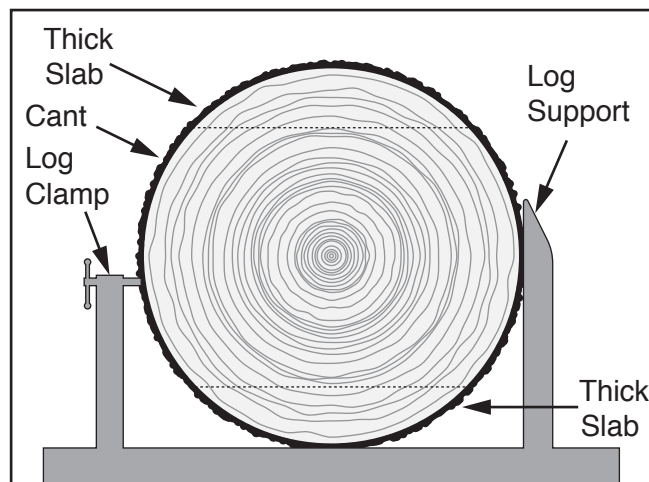

Figure 49. Thick slabs to be removed from log.
3. Cut a thick slab and remove it from log (see **Figure 49**). Set slab aside for now.
4. Rotate log 180° and secure it. Cut a slab about the same size as the first one (see **Figure 49**). To reduce waste, make sure the distance between cuts—the height of the resulting cant—is divisible by the thickness of lumber to be produced. Set slab aside for now.